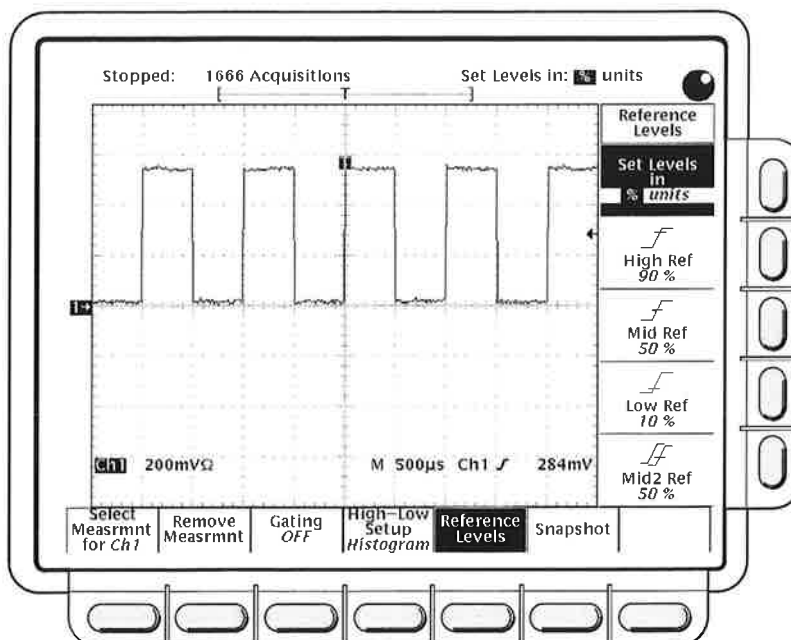

Figure 3-32: Measure Menu—Reference Levels
1. Press **MEASURE → Reference Levels** (main) → **Set Levels** (side) to choose whether the References are set in % relative to High (100%) and Low (0%) or set explicitly in the units of the selected waveform (typically volts). See Figure 3-32. Use the general purpose knob or keypad to enter the values.